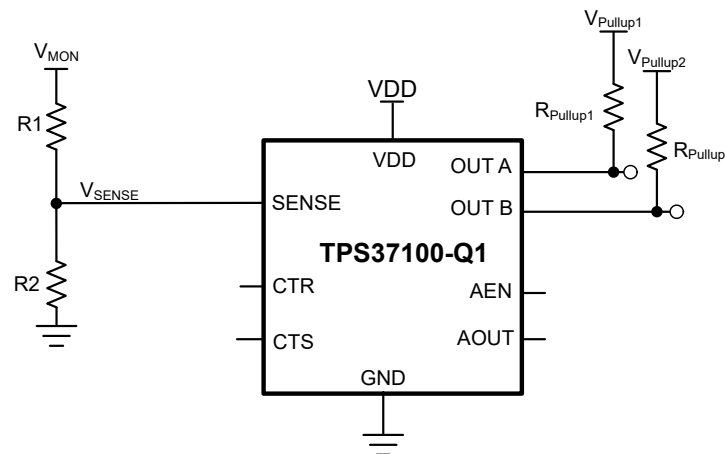

Figure 7-3. Adjustable Voltage Threshold with External Resistor Dividers
Figure 7-3 illustrates an example of how to adjust the voltage threshold with external resistor dividers. The resistors can be calculated depending on the desired voltage threshold and device part number. Adjustable voltage threshold variants bypass the internal resistor ladder.
For example, consider a 48V rail, V_{MON} , being monitored for undervoltage (UV) only using of the TPS37100Z91DDYYRQ1 variant, as shown in Figure 7-3. The monitored UV threshold, denoted as V_{MON-} , is the desired voltage where the device asserts the reset. For this example $V_{MON-} = 40V$. To assert an undervoltage reset the voltage at the sense pin, V_{SENSE} , needs to be equal or lower to the input threshold positive, V_{ITN} . For this example variant $V_{SENSE} = V_{ITN} = 0.8V$. Using R_1 and R_2 the correlation between V_{MON-} and V_{SENSE} can be seen in Equation 1. Assuming $R_2 = 2k\Omega$, and R_1 can be calculated as $R_1 = 98k\Omega$.